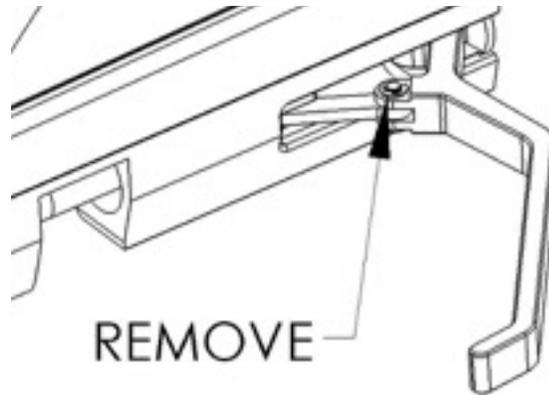

Fig. 3
6. Orient the airgun so the top is facing down, open the Cocking Lever until the resistance of the Hammer Spring is felt. This will expose the Retaining Ring. Using the small straight blade jewelers screwdriver insert the blade between the Retaining Ring and Pivot Pin and pry the ring off. (Fig. 3) Discard the used Retaining Ring.